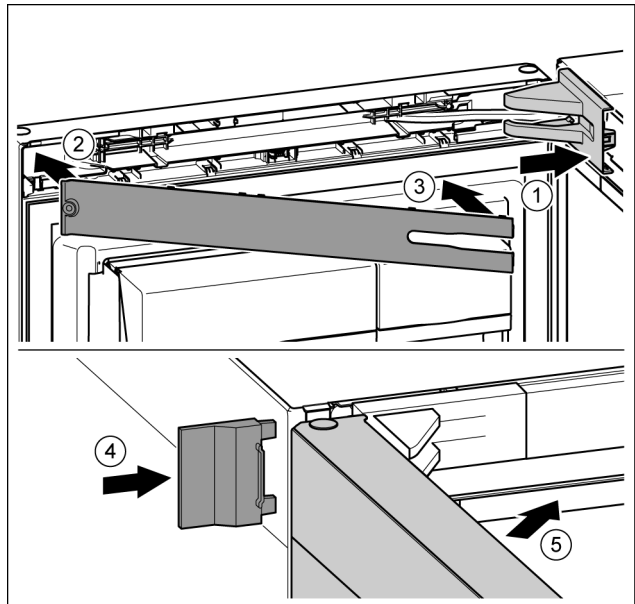

Fig. 26
- ▶ Position the bearing bracket and engage. If necessary push apart carefully. Fig. 26 (1)
- ▶ Position the panel. Fig. 26 (2)
- ▶ Swing in the panel and click into place. Fig. 26 (3)
- ▶ Slide on the external cover. Fig. 26 (4)
- ▶ Close the upper door. Fig. 26 (5)